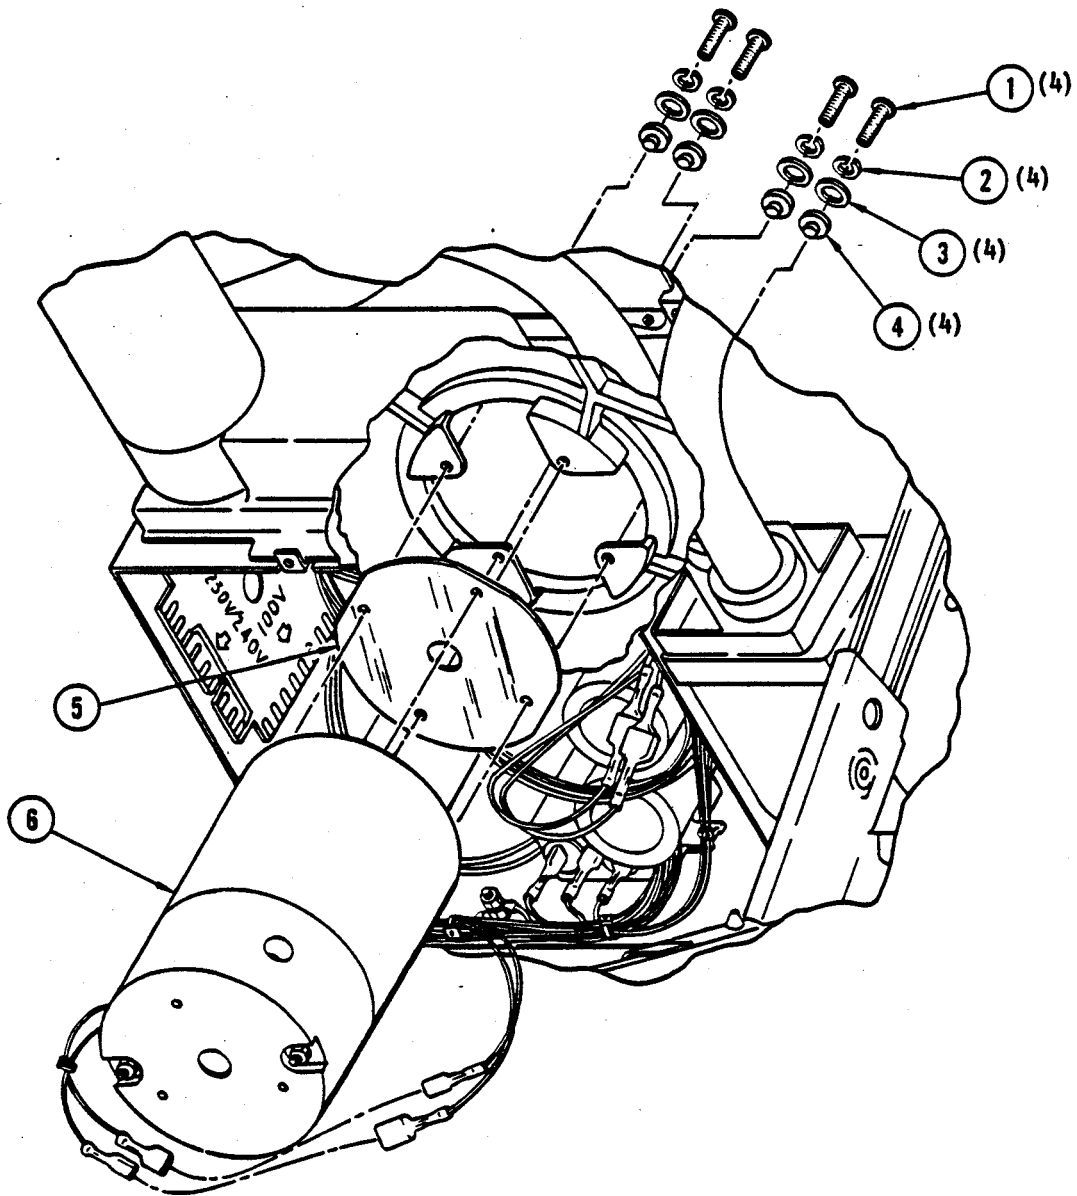

Figure 4-26. Takeup Motor Assembly.
4-40. Removal, Replacement and Adjustment (Figure 4-26). Place the transport in service access position, in accordance with paragraph 4-3, and remove and replace the takeup motor assembly in accordance with the following procedure:
- f. Remove four screws (1, Figure 4-26), lockwashers (2), flatwashers (3), shoulder washers (4), and takeup motor (6) out of drive, noting orientation of motor. Save attaching parts, including insulator (5), for use in assembly.